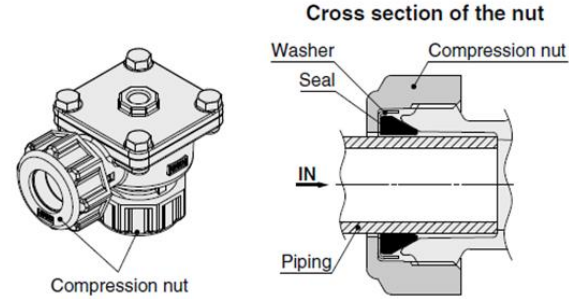

Fig.1
- Tightening of the compression nuts, see fig.1.